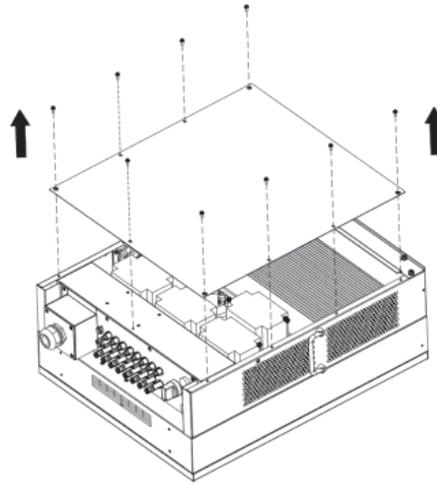
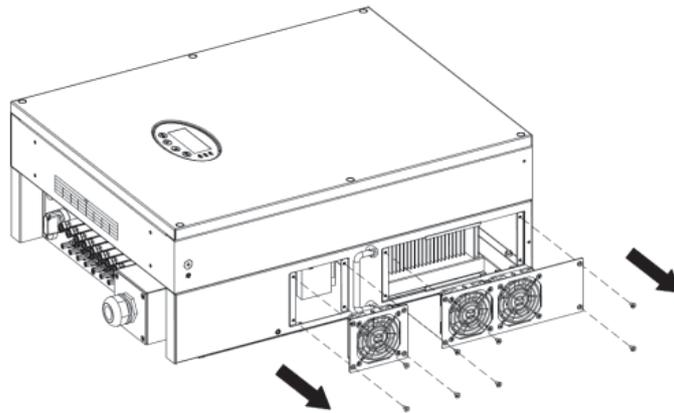

Figure 5.1 Remove the cooling chamber
Figure 5.2 Remove the fan mounting plate
- (1) Disconnect the input and output switches.
- (2) Wait ten minutes.
- (3) Remove the inverter as the reverse steps of Section 4 content.
- (4) Remove the cooling chamber or fan mounting plate, as shown in Figure 5.1 and Figure 5.2.
- (2) Make DC switch to the "OFF" position.
- (3) Wait ten minutes.
- (4) Remove the inverter as the reverse steps of Section 4 content.
- (5) Dismantle the fan mounting plate as shown in Figure 5.2.